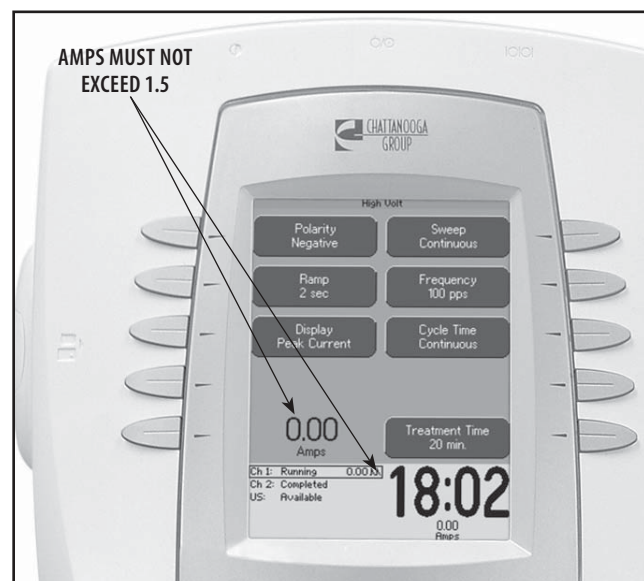

FIGURE 5.14
11. The numbers displayed for amplitude must not exceed 1.5 Amps. **See Figure 5.14**.